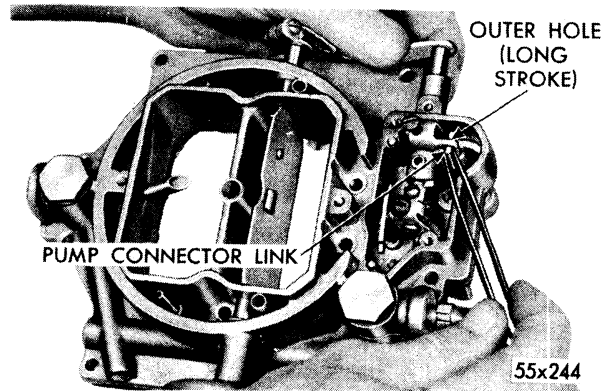

Fig. 39—Installing Accelerator Pump Connector Link
- (4) Slide the accelerator pump plunger spring over plunger shaft, followed by the spring seat (shoulder on seat toward spring). With the spring compressed, slide the shaft end into the opening in air horn. With pressure on the bottom of plunger, invert air horn and install accelerator pump connector link in the top hole in the arm and plunger shaft. (See Fig. 39.) Install hairpin clip to secure. **Before installing link, be sure the hole in the plunger shaft is parallel to the pump shaft. Install link with the hairpin clip groove end entering the hole in the pump arm.**